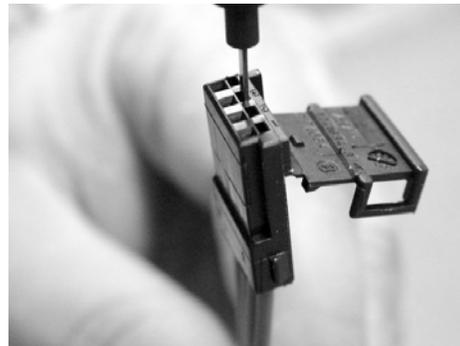

Figure 2
3. Insert the extraction tool tip into the window adjacent to the circuit cavity until it bottoms inside the window. See Figure 2.